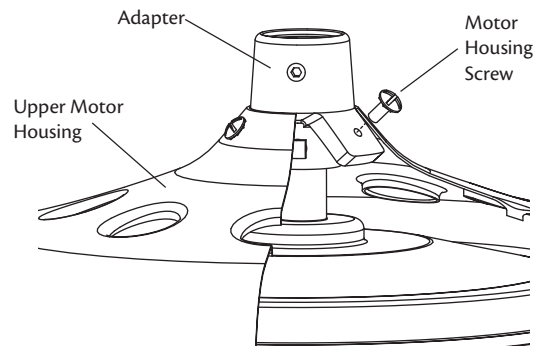

Figure 12 - Assembling the upper motor housing
- Place the upper motor housing over the adapter as shown in Figure 12. Align the holes in the upper motor housing with the holes in the adapter.
- Securely tighten all three motor housing screws. Refer to Figure 12.